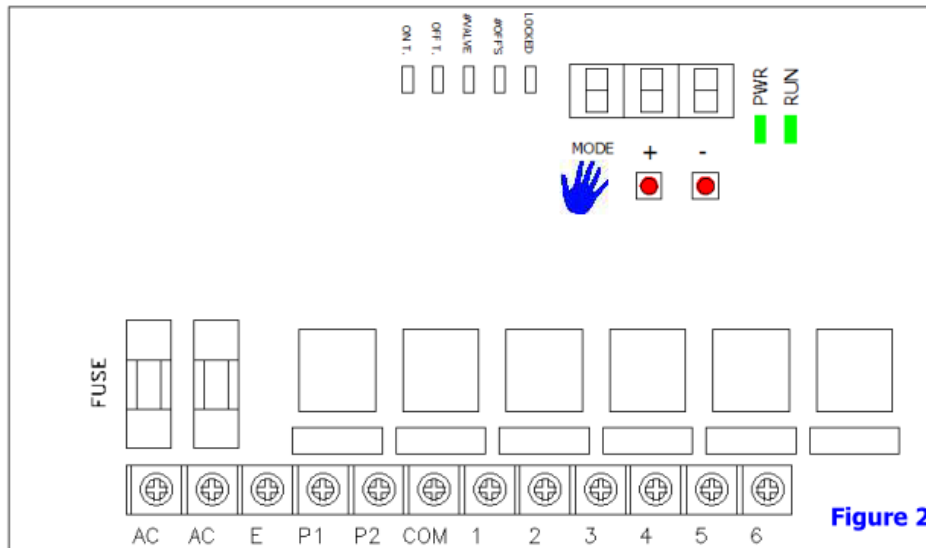

Figure 2
- Press MODE ( figure 2 ) , The "ON T." will flash up that represents it is in the air pulsing time setting mode (pink triangle) (figure 3).